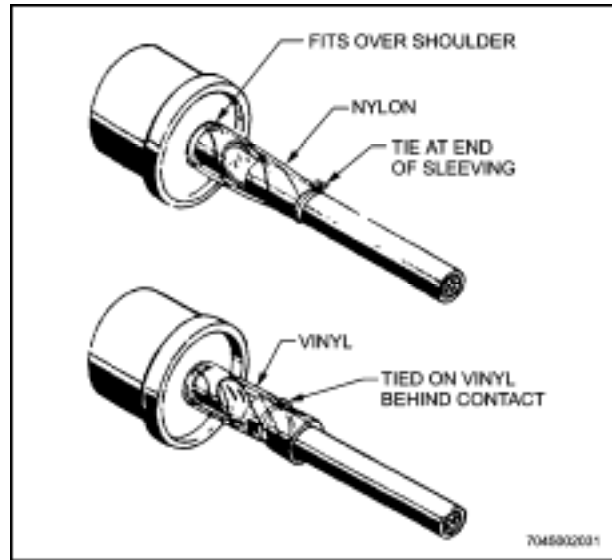

Figure 10-4 Insulating Sleeve Installed Over Solder Cup
14. Cut the sleeving into lengths, as given in Table 10-4, to extend from the insert and overlap the wire insulation, covering the soldered connection completely. (See Figure 10-4.) Slip insulating sleeve or tubing of correct size, material, and length over each prepared wire, far enough back from the stripped end to avoid heat from the soldering operation (about 25mm).